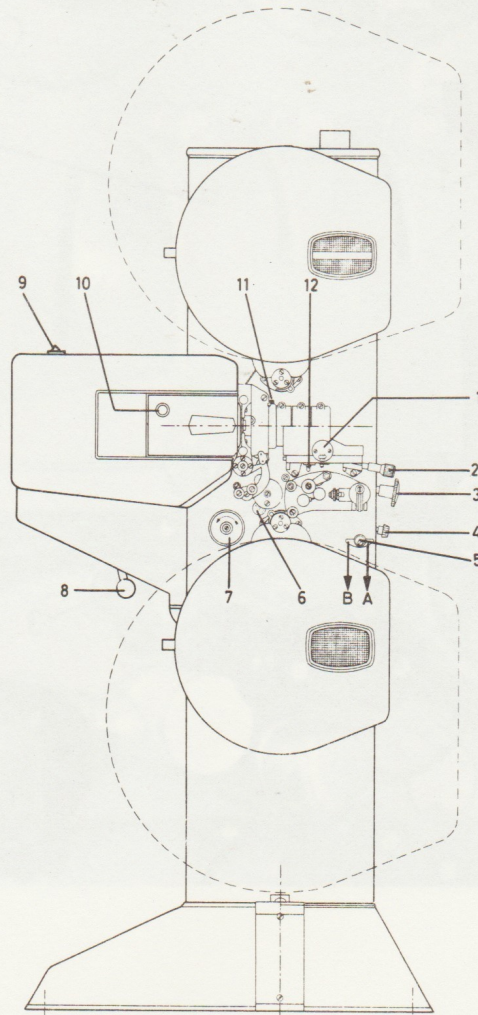

Fig. 1
### CONTROLS AND SWITCHES (fig. 1)
- . Turn framing knob 3 (fig. 1) so that its white dot is at the top; the framing device is then in its centre position.
- . Check by turning knob 7 (fig. 1) whether the film has been threaded correctly.
#### PROJECTION (fig. 1)